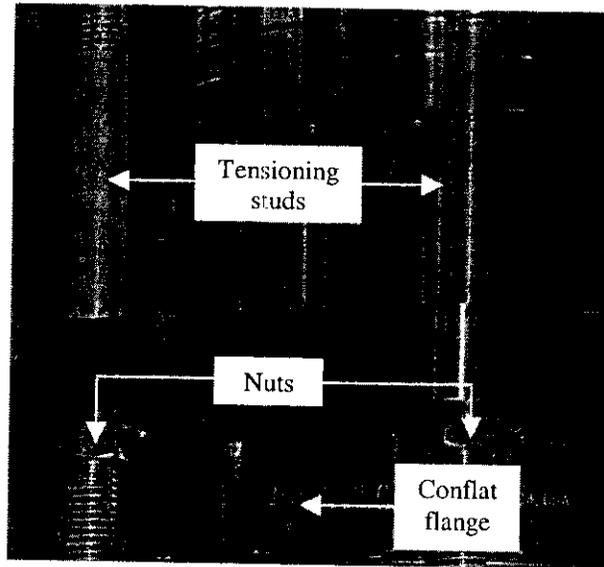

Figure 1.22 The positions of the tensioning studs, nuts, and top plate Conflat flange as the 20 Conflat bolts are tightened.
1.22 Raise the nuts on the tensioning studs to hold the lead in place, as shown in Figure 1.22.